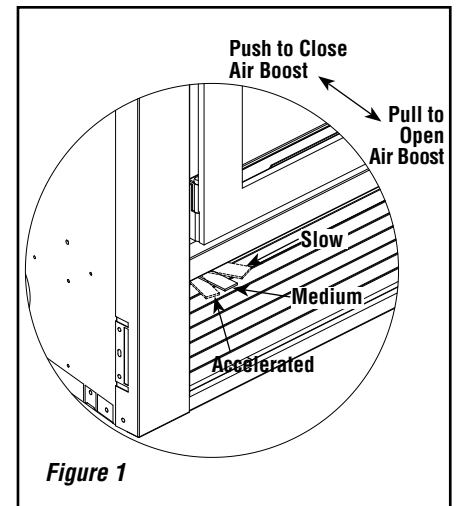

Figure 1
This is the recommended mode of operating the BIS® Ultima CF fireplace and should be the one normally used since it will deposit the least amount of creosote on the glass and in the chimney. The combustion air control must be 3/4 closed (**Figure 1**) and pushed in to close the air boost. The precise setting will depend on many factors, including chimney length and the moisture content of the wood.
Creosote may accumulate on the glass door. This method of burning should be used only after operating the BIS Ultima CF fireplace with the air control opened (**Figure 1**) to produce a hot fire for about an hour or at medium pace for at least three (3) hours. Slow combustion can be used at night in order to reduce the heat output and to prolong the burn. The loading time will be between 6-8 hours.
The BIS Ultima CF fireplace will operate best if attention is given to operating the unit with the damper fully opened (**figure 1**) after refueling in order to bring the firebox and the chimney system up to their optimum operating temperature. Combustion efficiency is relative to firebox temperature. A temperature of 932° F (500° C) and up, with a visible flame, in the upper part of the firebox indicates a maximum efficiency. To obtain this temperature, the fireplace must be operated with the primary air and air boost controls fully opened during 10 to 20 minutes after reloading, depending on the heat and on the moisture content of the wood.